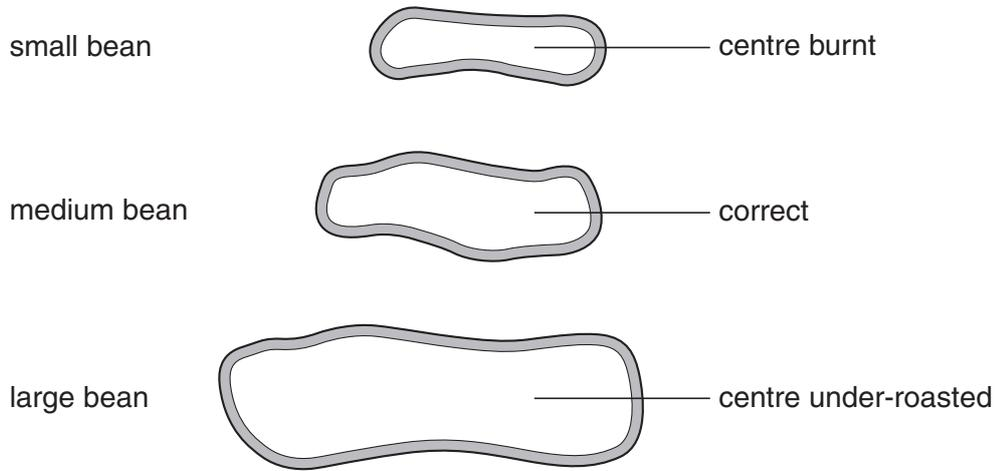

Fig. 1.2
- (f) The roasting of the beans requires considerable skill to obtain the best results. One problem is that beans are of different sizes and may be affected differently by the roasting process. Three possible results are shown in Fig. 1.2.